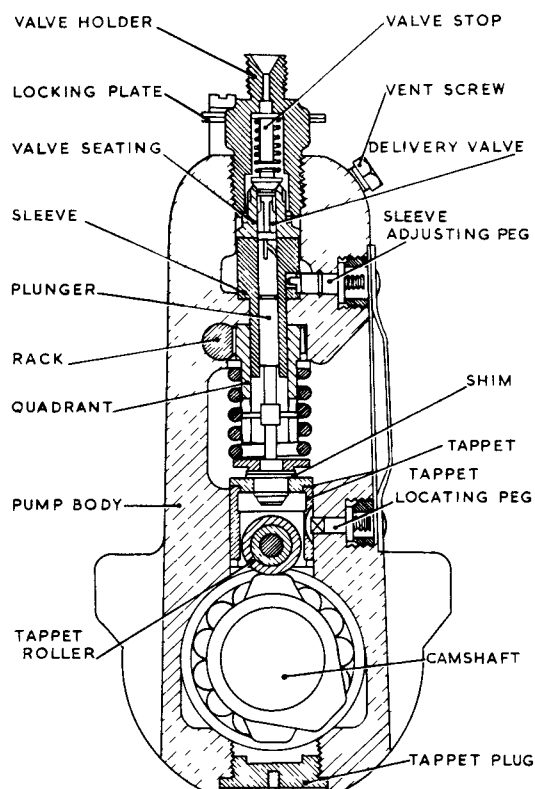

Fig. 6 Fuel injection pump
24. Fuel injection pump (fig.6). The fuel injection pump is of the enclosed camshaft pattern operating on the constant-stroke variable-delivery principle, utilising a helical groove in the pump plunger in conjunction with two accurately machined ports at right angles to each other in the pump sleeve. A pump element is provided for each engine cylinder, each element consisting principally of a plunger and sleeve closed at the outlet by a spring-loaded valve; the plungers are operated by cams and roller tappets and are spring-loaded for recovery. The pump receives fuel from the main filter and each element outlet is connected by a steel pipe to the appropriate injector.